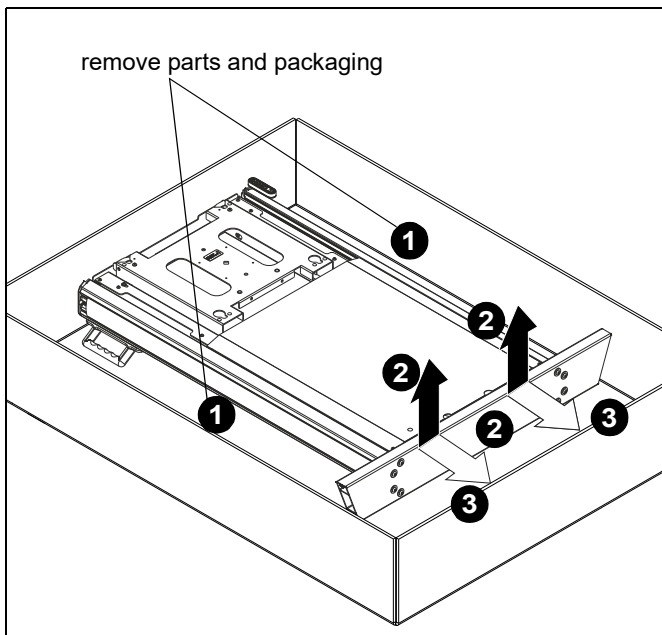
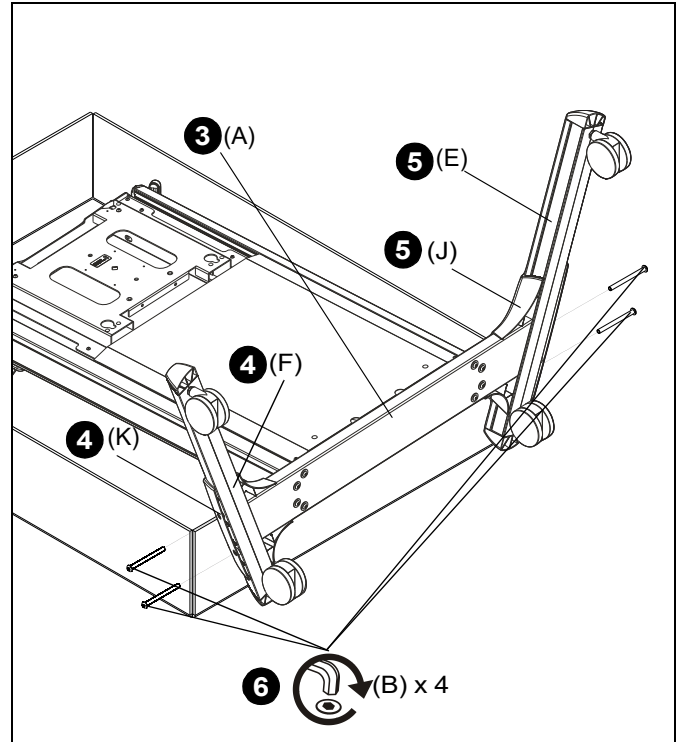

Figure 1
Figure 2
1. Remove all parts and extra packaging from sides of box leaving only the column assembly (A) in the box. (See Figure 1)
2. Lift column assembly (A) up by lifting at the bottom of the assembly. (See Figure 1)
3. Carefully set column assembly (A) base on the edge of box. (See Figure 1) and (See Figure 2)
4. Place right transition cover (K) on right cart leg (F), lining up the holes on the cover with the holes on the leg and column assembly base. (See Figure 2)
5. Place left transition cover (J) on left cart leg (E), lining up the holes on the cover with the holes on the leg and column assembly base. (See Figure 2)
6. Use four 5/16-18 x 3 3/4" button head cap screws (B) to secure legs (E and F) and covers (K and J) to column assembly (A). (See Figure 2)